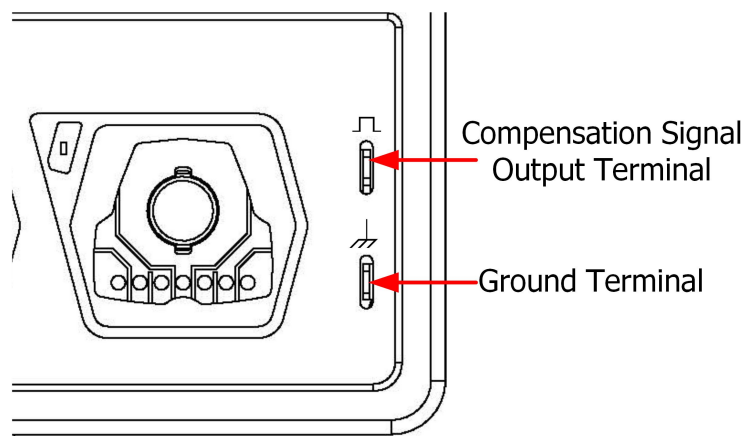

Figure 5.5 To Use the Compensation Signal
2. Connect the ground alligator clip of the probe to the "Ground Terminal" as shown in *Figure 5.5* below.
3. Use the probe to connect the input terminal of CH1 of the oscilloscope and the "Compensation Signal Output Terminal" of the probe, as shown in *Figure 5.5*.